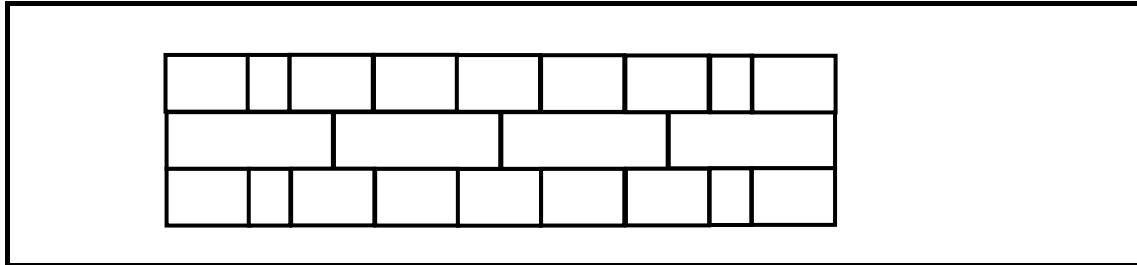

FIGURE 3.7
- 3.7 Which type of brick bond is illustrated in FIGURE 3.7? (1)